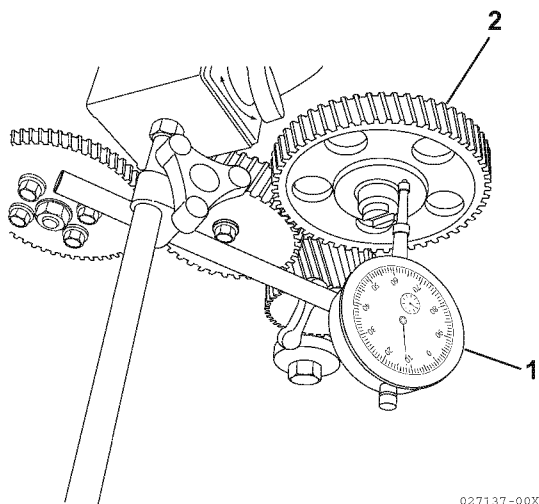

Figure 6-44
- Method A:** Install a dial indicator (**Figure 6-44, (1)**) on the cylinder block. Move the camshaft and gear (**Figure 6-44, (2)**) in and out to measure the end play. Record the measurement. See *Camshaft* on page 6-5 for the service limit.